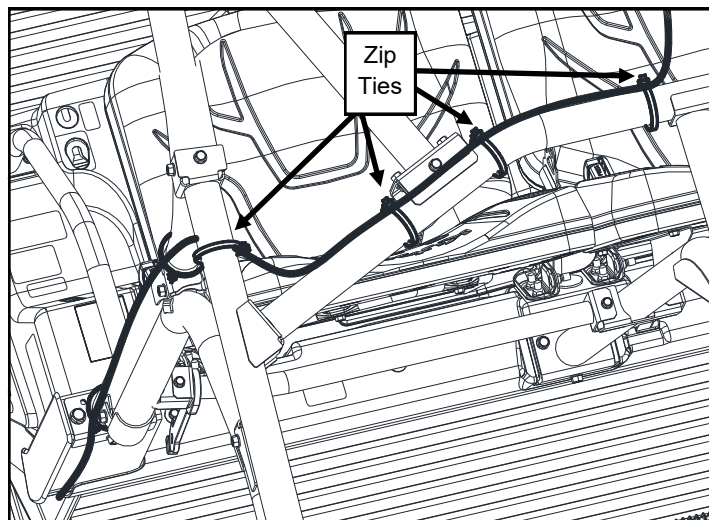

Fig. 12 (shown with canopy removed)
12. Route the harness up the side of the driver's side vertical ROPS tube, under the top of the driver's side upper tube and along the center tube as shown in fig. 12.
14. Starting at the battery, remove as much slack as possible from the harness and use provided zip-ties to secure the wire harness to the ROPS tube. See fig. 12.